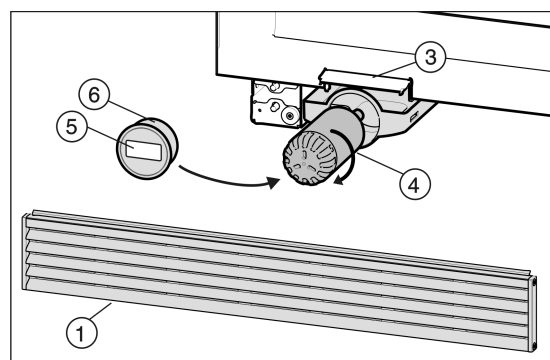

Fig. 6
- Insert the new filter *Fig. 6 (4)* and turn it about 100° clockwise as far as it will go.
- Place the cover *Fig. 6 (6)* on the filter.
- Write the date of the next filter replacement on the supplied adhesive label *Fig. 6 (5)* and affix it to the filter cover *Fig. 6 (6)*.
- Push in the water filter carriage *Fig. 6 (4)*.
- Close the filter change flap *Fig. 6 (3)*.
- Fit the ventilation grid *Fig. 6 (1)* again and push down. It must close flush with the floor.